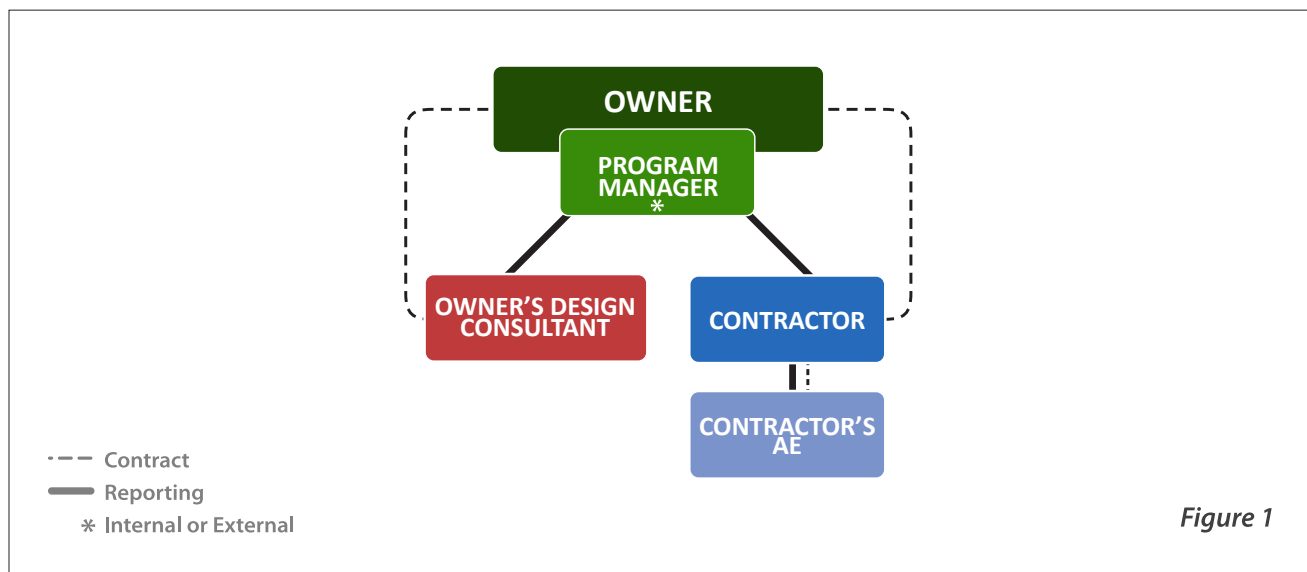
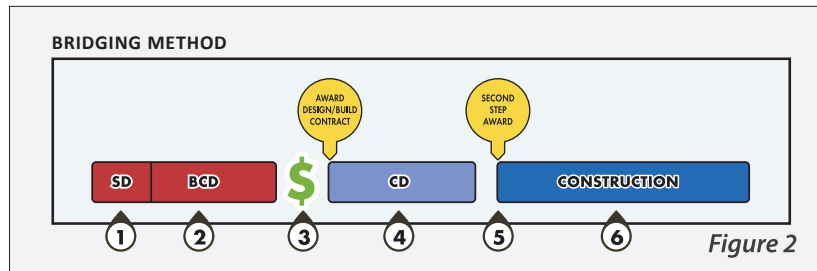

Figure 1
Figure 2
Step 1: A designer or design team is selected as the Owner's Design Consultant ("ODC"), sometimes referred to as the "Bridging Architect" (Figure 1). The ODC goes through Schematic Design in the same way an architect would do in traditional design services, with reviews and approvals by the Owner. Typically, the project budget and schedule would also be reconfirmed at this point (Figure 2).